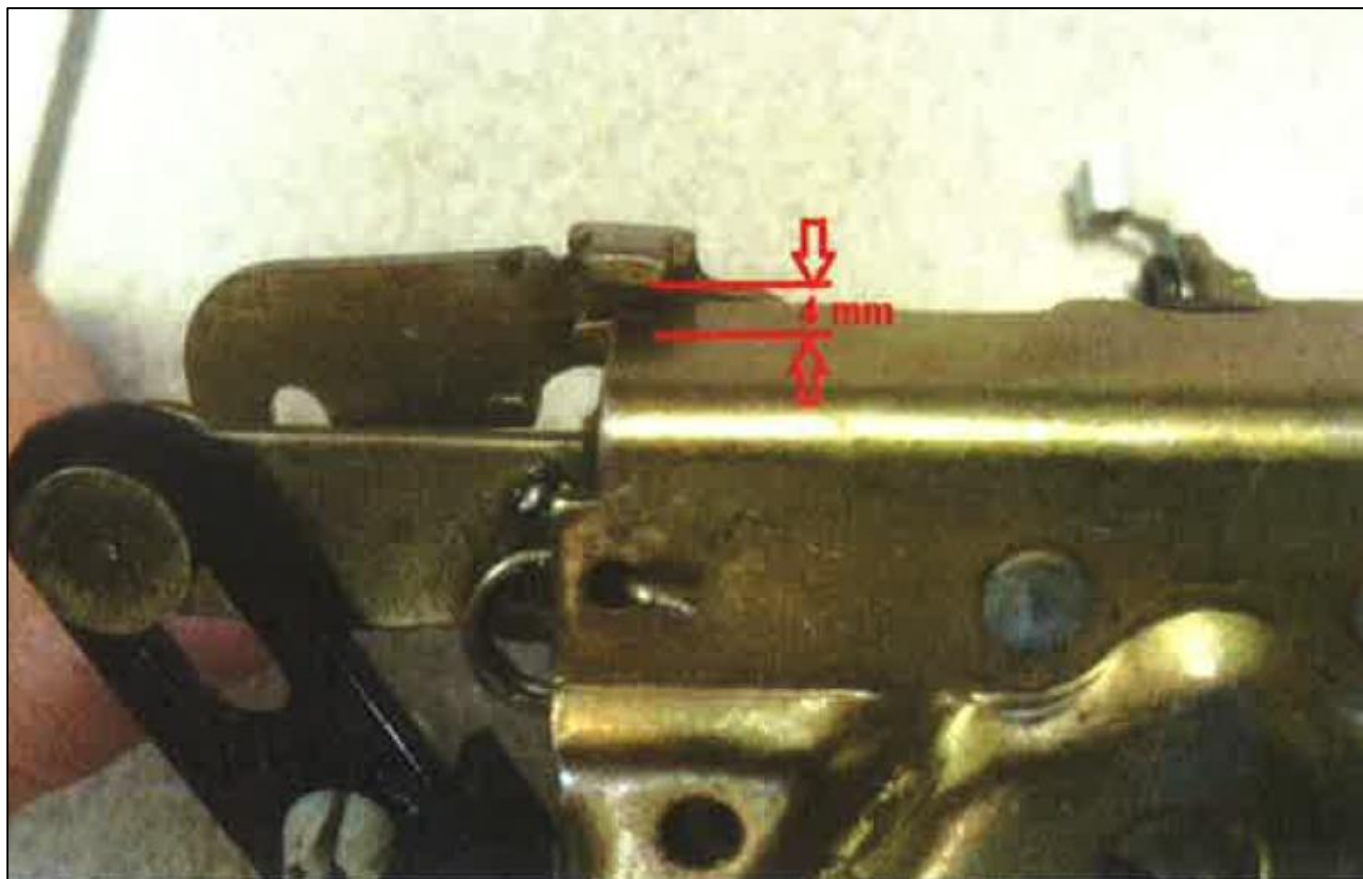

Figure 1
8. Use the white clip to adjust the latch-bar until it is approximately 4 mm clear of the door latch assembly. (Refer to Figure 1.)